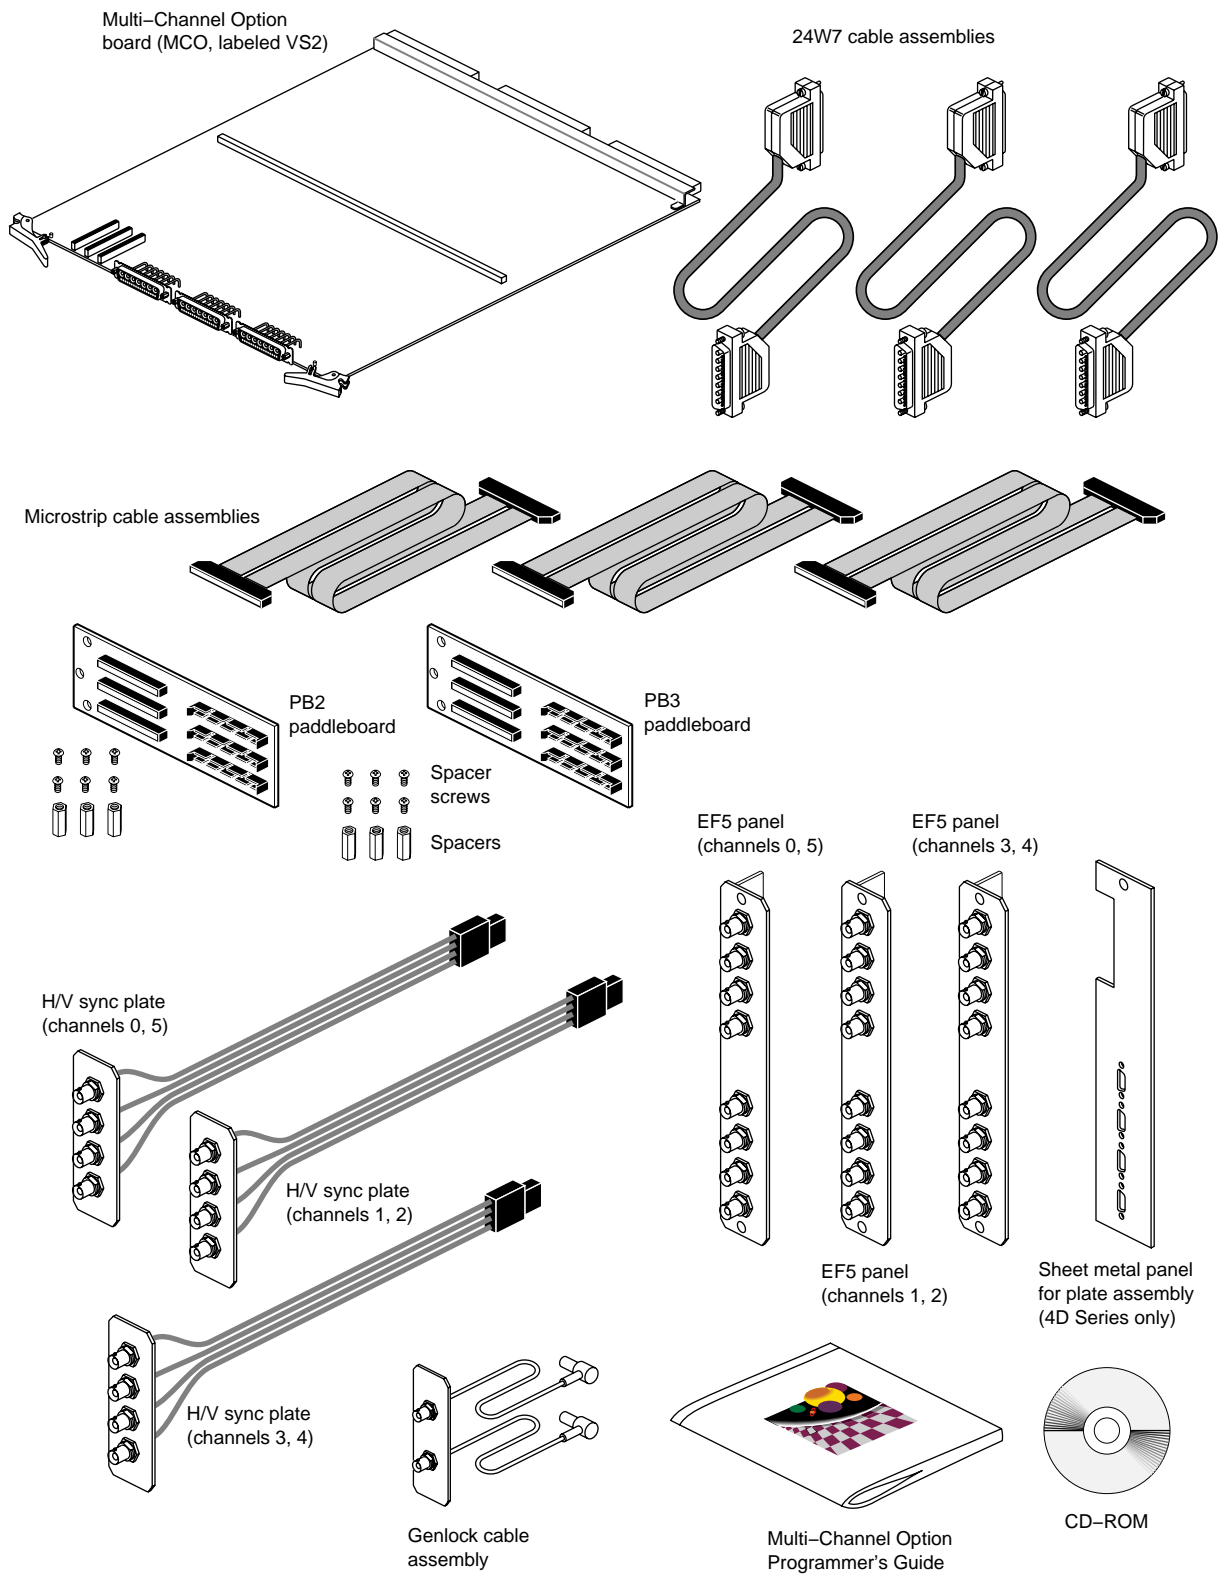
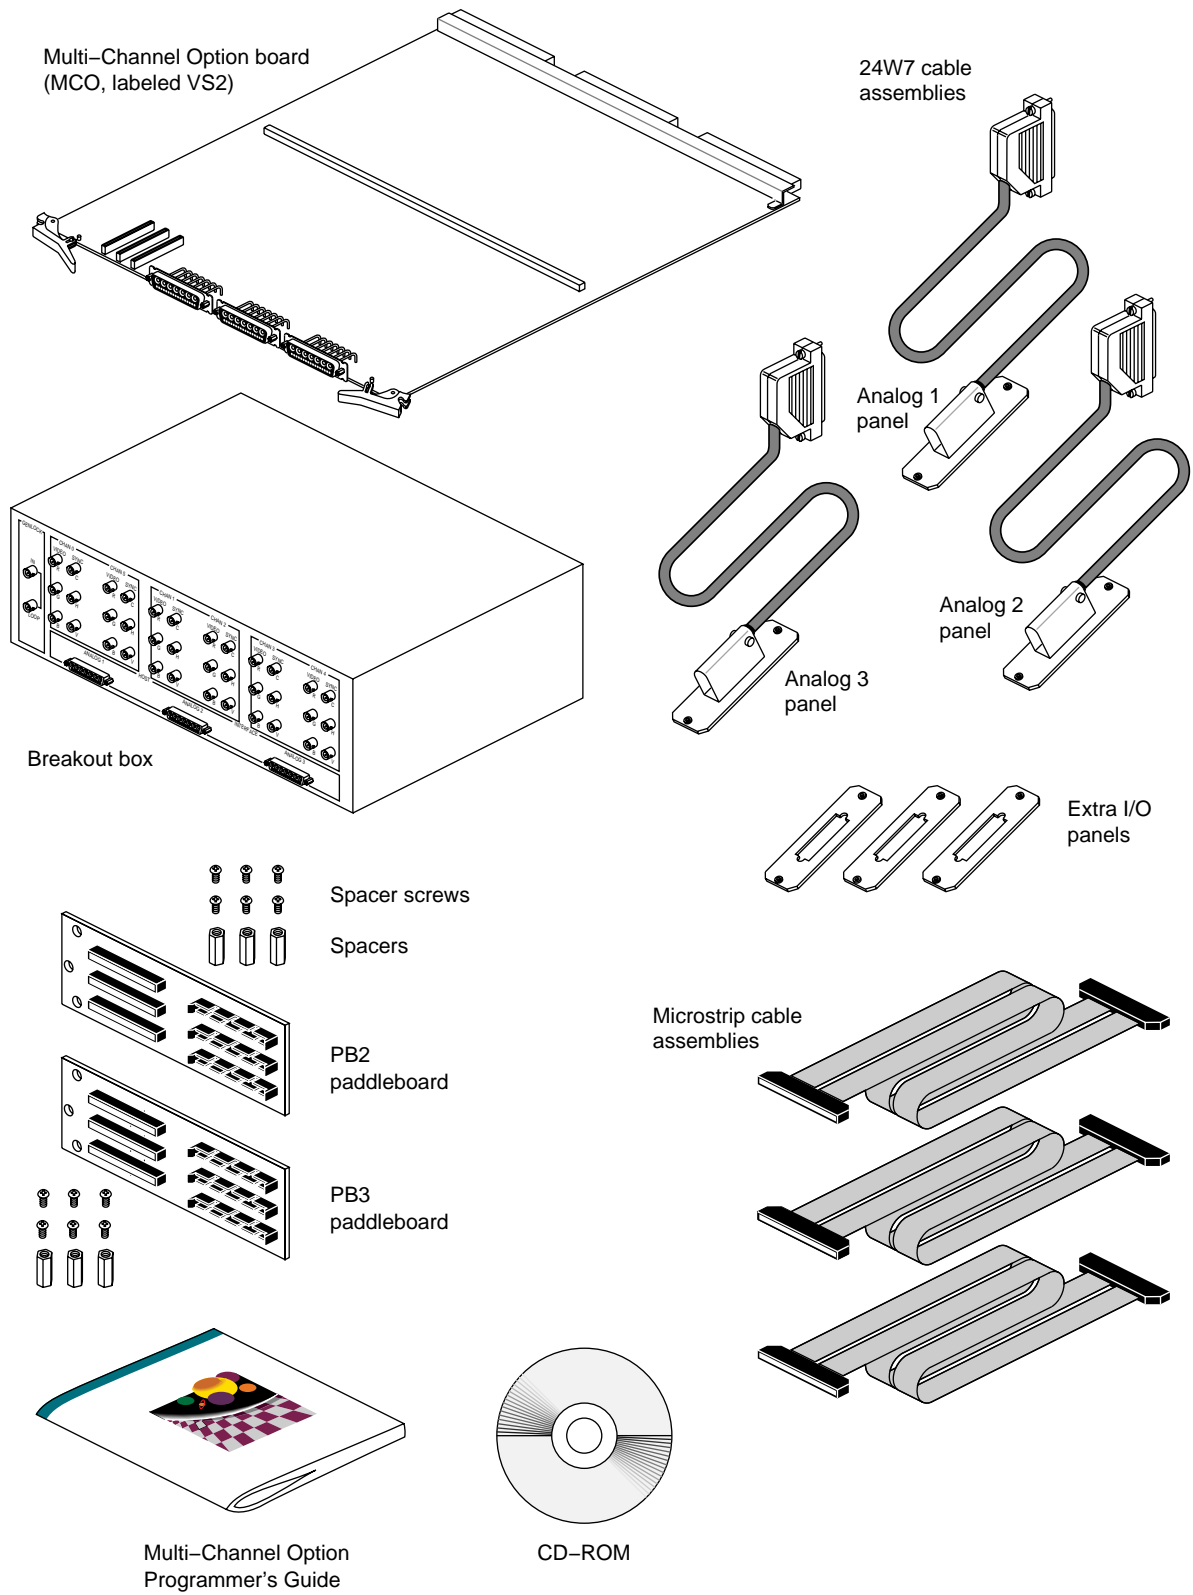

Figure 1-1 Kit contents for Older Version with No Breakout Box
Figure 1-2 Kit contents for Version with Breakout Box
- Figure 1-1** Kit contents for Older Version with No Breakout Box1-2
This chapter summarizes the contents of the Multi-Channel Option kit (D4-MCO-4D, D4-MCO-ONYX, or D4-MCO-BOB). For convenience, Figure 1-1 shows all components for the older version with no breakout box (D4-MCO-4D or D4-MCO-ONYX). Figure 1-2 shows all Multi-Channel Option components for the version with the breakout box (D4-MCO-BOB).